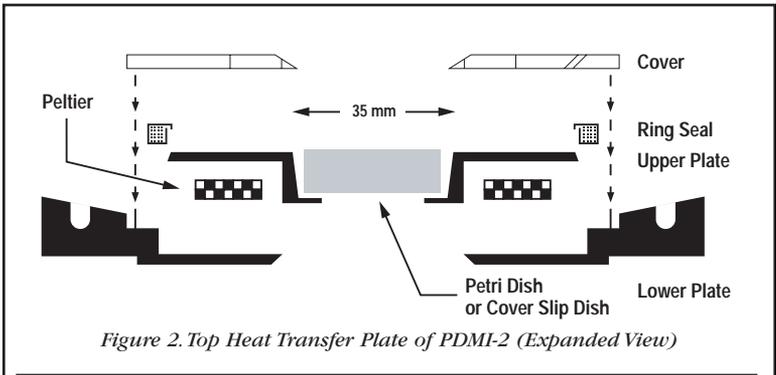

Figure 2. Top Heat Transfer Plate of PDMI-2 (Expanded View)
2. The top plate (see Figure 2, page 6) also black aluminum supports the inserted chamber and serves as the temperature driven plate.
Heat transfer to the controlled medium during perfusion occurs largely from the temperature driven plate to closely coupled Teflon™ perfusion tubing. The Teflon™ tubes are coiled inside a circling slot (groove) machined in the top heat exchange plate (see Figure 2, page 6). The extracellular medium first passes through these tubes and is warmed (or cooled) to the set temperature before reaching the chamber. There are two other heat transfer mechanisms. The first of these is by direct conduction from the support surface and collar to the chamber, the other is through convection from air or gas flowing over the same temperature controlled plate.
### Disassembly for replacement of tubing (see Figure 2, page 6):